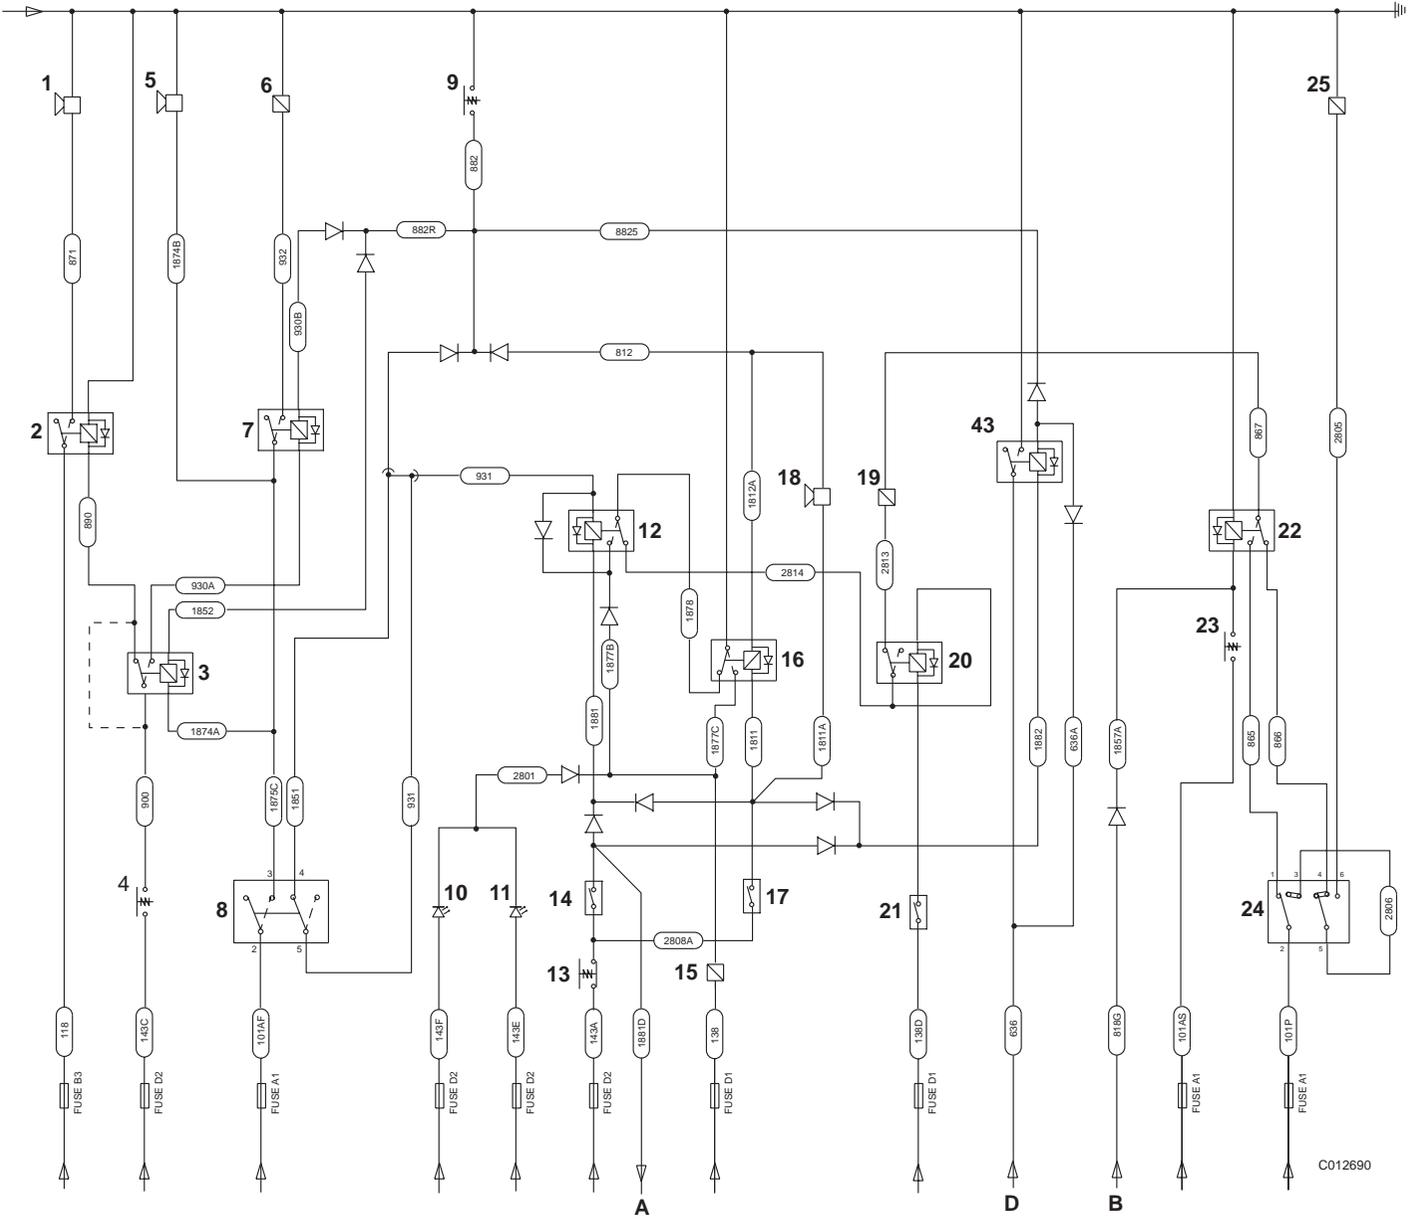

Fig 16. Machines with Clam Shovel/Ext. Dipper Isolator Relay, Sheet 1 of 2
Component Key: Sheet 1 of 2 ⇒ Fig 16. \(□ L-22\)
- A From Seat Rear Sensor Switch ⇒ Fig 16. \(□ L-22\)
- D To Clam Shovel/Ext. Dipper Isolator Latching Relay ⇒ Fig 16. \(□ L-22\)